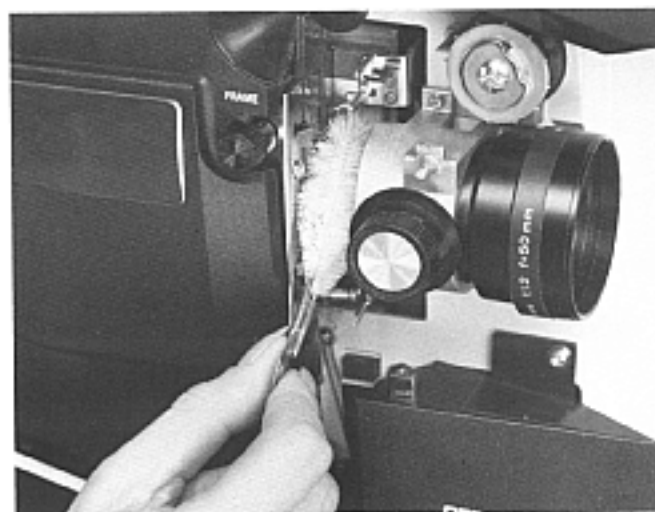

Figure 21
6. Use the wire-handled brush with white bristles—supplied with the projector—to clean the aperture and mask and rear of the projector lens, as shown in Figure 21.